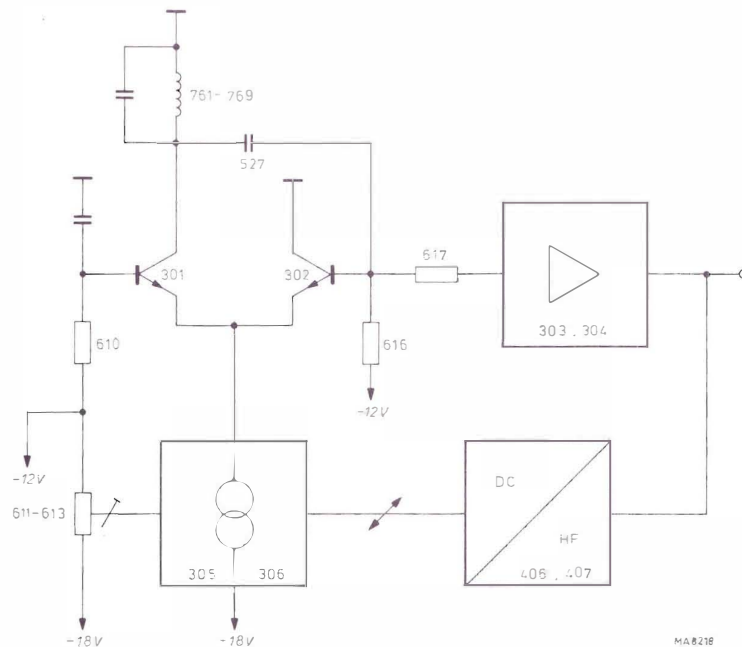

Fig. 25. HF-Oscillator
3.1.1. HF-OSCILLATOR (Fig. 25)
The output signal of the h.f. oscillator is applied to the base of transistor 308 via separating amplifier 303/304 (Fig. 25). Moreover, via stage 307 two components of the modulation voltage are supplied to modulation stage 308. The working point of modulation stage 308 is adjusted with potentiometer 631 so that difference amplifier 308/309 is symmetrical. One component of the modulation voltage is supplied to the emitter of modulation stage 308 via the emitter of transistor 307. The modulation current i_{LF} , which is determined by resistor 626, is supplied by transistors 308 and 309; every transistor supplies half the current.